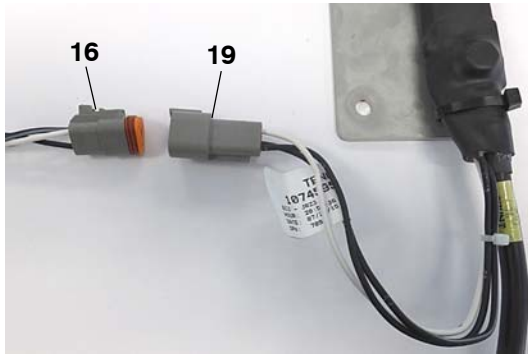

Fig. 20
20. Connect the telemetry harness (16) to the telemetry shunt harness (19). (Fig. 20)